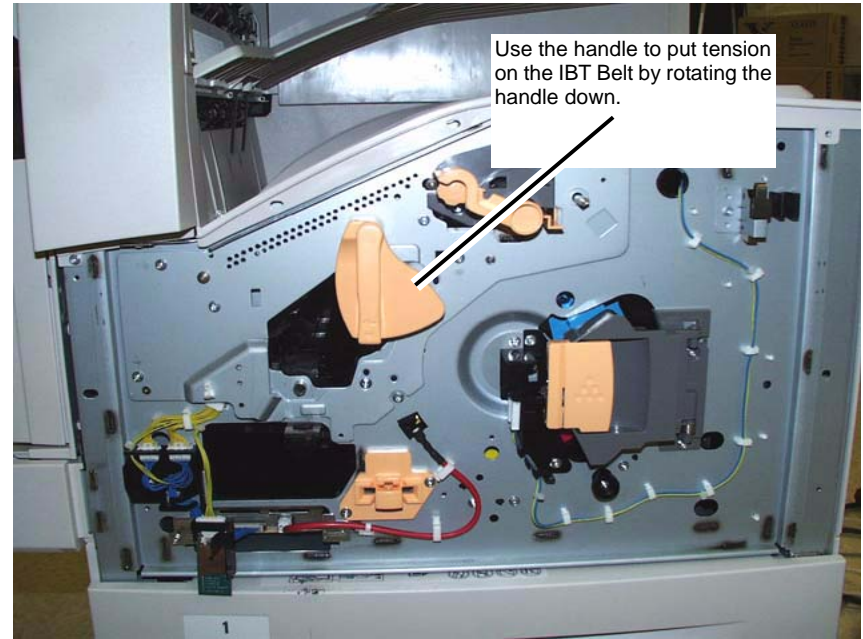

Figure 7 Re-tension the IBT Belt
11. Place the IBT Belt Tension Handle on the shaft and rotate the Handle counter clockwise to the down position put tension on the IBT Belt. (Figure 7)